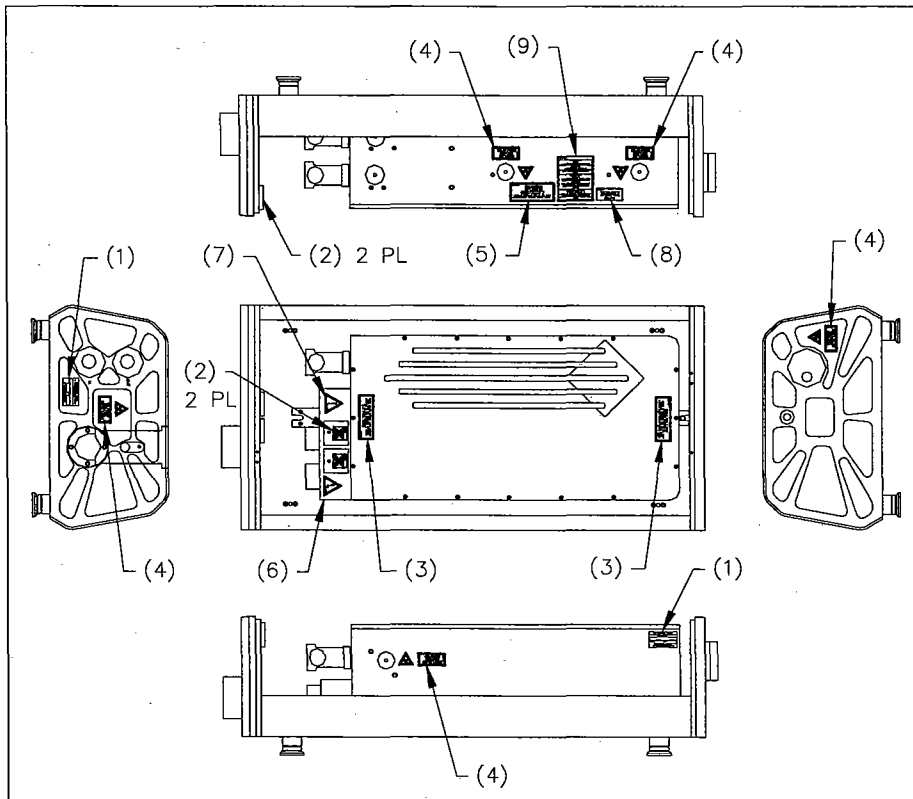

Figure 2.1: Evolution-30 CDRH/CE Radiation Control Drawing; Scientific Version
Certification and warning labels are affixed to the Evolution-30 laser to verify compliance with 21 CFR 1040, to provide information on the wavelength and power emitted, and to warn the user against accidental exposure to laser radiation. The location and type of warning logotype labels used on the Evolution-30 bench for both the Scientific and OEM versions, as well as the laser power supply, are shown in Figure 2.1, 2.2 and 2.3 respectively.
- Verify that all the warning labels listed in Figures 2.1 to 2.3, 'Evolution-30 Radiation Control Drawings' are present and firmly affixed in the correct locations.